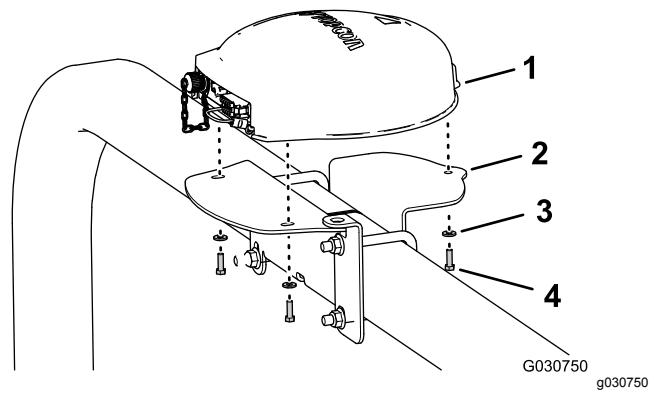

Figure 126
4. Align the 3 threaded in the base of the navigation receiver to the 3 holes in the receiver mount (Figure 126).
5. Assemble the receiver to the mount (Figure 126) with the 3 hex-head bolt (5 x 16 mm) and 3 washers (5 mm).